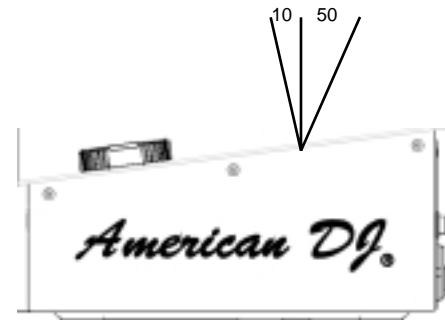

Fig. 2b
- The LCD is designed to be clearly visible within the angles shown in **Figure 2b**. Mount the control unit so that the visual angle is within this range.